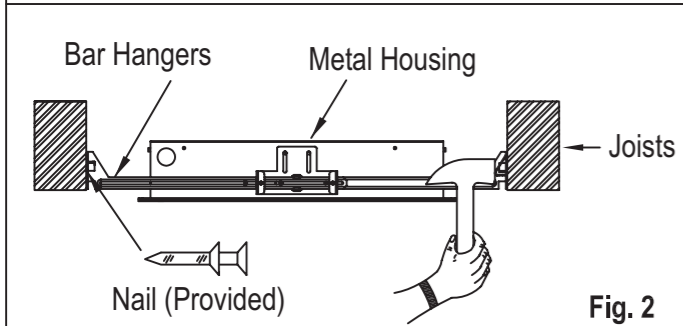

Fig. 2
2. Position metal housing and bar hangers between joists. Adjust bar hanger in the correct position to hanged extend 14" to 24". Position metal housing temporarily by hammering "nail-in" tabs on bar hangers, then secure permanently with nails. Bar hangers should be level with bottom of joists (Fig. 2)